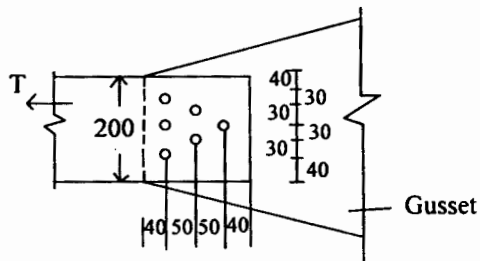

Fig. 3
- (b) Determine the design tensile strength of plate 200 mm \times 8 mm connected to 10 mm thick gusset using 20 mm bolts as shown in Fig. 3. Take $f_y = 250$ MPa and $f_u = 410$ MPa.